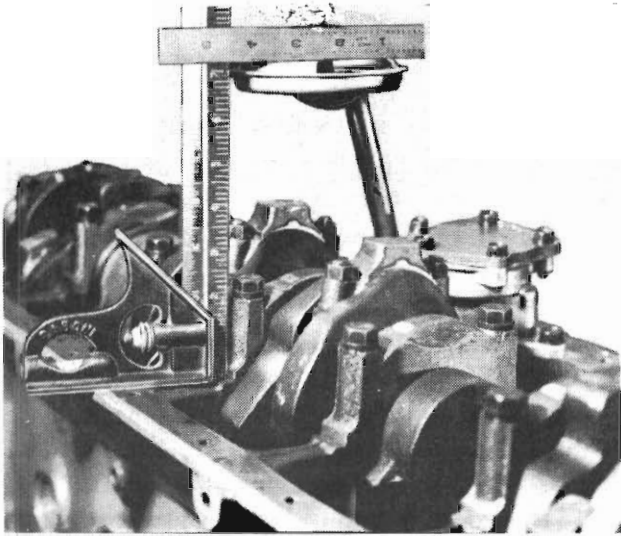

Fig. 1 - Positioning oil pick-up tube (6 cylinder models)
(1) Clean oil pan in solvent and wipe dry with a clean cloth.
(2) Scrape all gasket material from the mounting surface of pan and crankcase (see Fig. 1).
(3) Inspect oil drain plug and plug hole for stripped or damaged threads and repair as necessary. Install a new drain plug gasket.
(4) Inspect oil pan mounting flange for bends or distortion. Straighten flange if necessary.
(5) Clean oil screen and pipe thoroughly in clean solvent. Check condition of screen.
(6) Re-install the relief valve and spring if in serviceable condition (replace if worn), checking that the valve slides freely.
(7) Re-install the oil strainer pipe using a new seal (air leakage at this point will cause loss of 'prime' and aerated lubricating oil). Tighten the retaining screws to 30 lbs. in. torque.
(8) Check that the oil tube dimension from the block oil pan surface to the bottom of the strainer is 7-1/8" (to ensure that the strainer is in contact with the pan, when installed, without excessive interference) (refer Fig. 1).